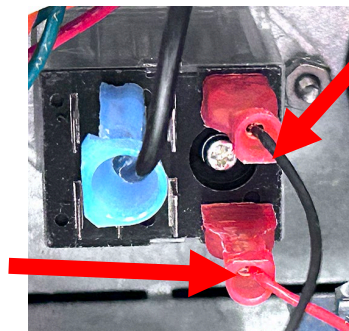

Figure 50
- 53. Connect the **RED** and **BLACK** wires from the VIB harness labeled **RIGHT**, to the coil side of the clear OIB relay connectors shown (see Figure 50).